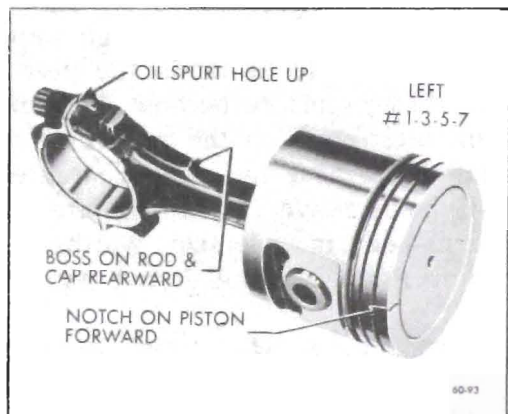

Figure 60-235--Left Bank Piston and Rod Assembly (455 cu.in. engines)
2. If the piston and rod assembly is to be installed in the *left* bank, the assembly must be made as shown in Figures 60-235 and 60-235A.
15. Install all other piston and rod assemblies in same manner. When piston and rod assemblies are properly installed, the oil spurt holes in the connecting rods will be "up" toward the camshaft, the rib on the edge of the rod cap will be on the same side as the conical boss on the connecting rod web, and these marks, (rib and boss) will be toward the other connecting rod on the same crankpin. See Figure 60-235 and 60-236.